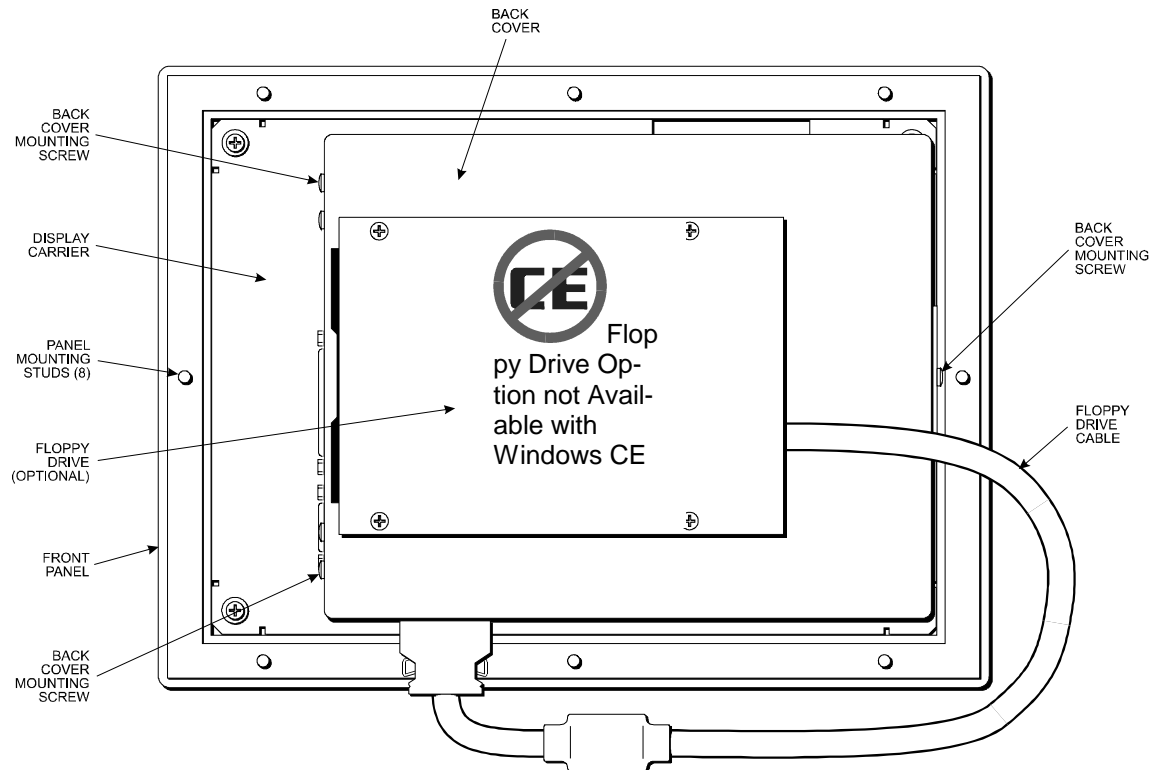

Figure 3-7. 3408/3410/3412 Back Panel
Figure 3-7 illustrates the back panel on the 3408,3410 and 3412 units.
3. Unscrew the three back cover mounting screws (refer to Figure 3-7 for positioning information).
There are four screw holes on the back of the unit to mount an external floppy disk drive (9000-EXF). Refer to Figure 3-7.